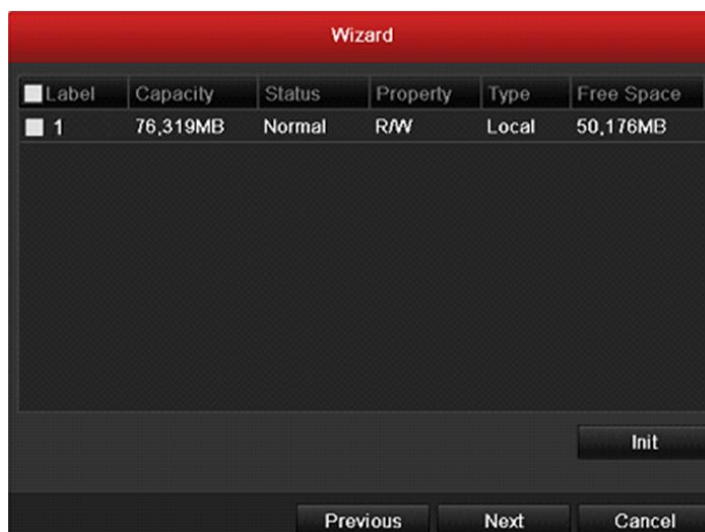

Figure 2.6 HDD Management
6. Click **Next** button to enter the **HDD Management** window, shown in Figure 2.6. To initialize the HDD, click the **Init** button. Initialization removes all the data saved in the HDD.